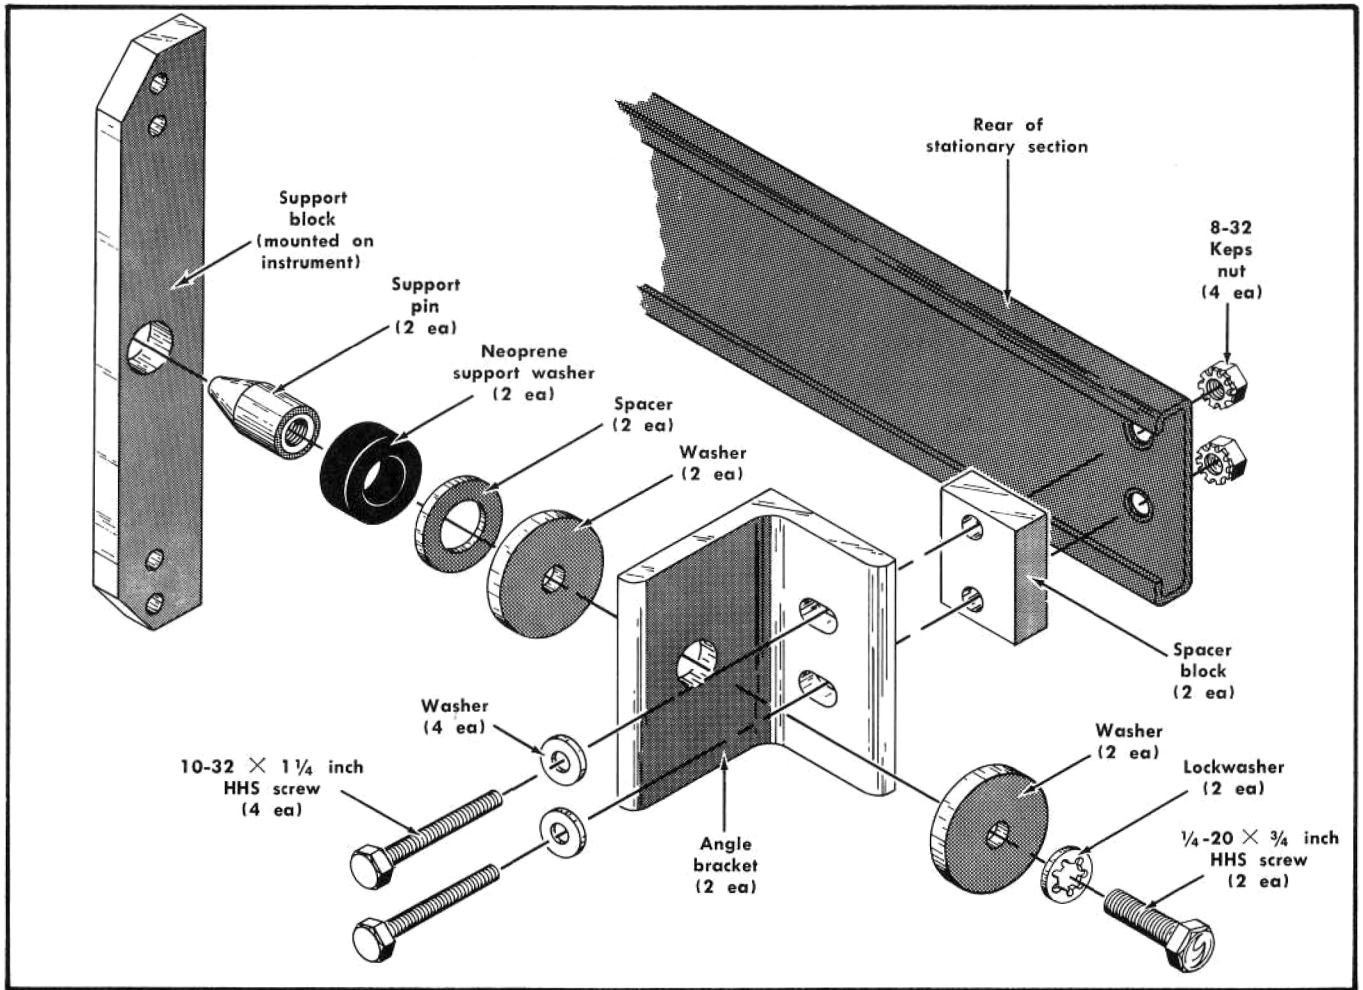

Fig. 6-6. Rear Support kit.
3. Attach an angle bracket to both rear rails of the rack through the spacer block, stationary section and into the rear rail of the rack. Note that the holes in the spacer block are not centered. Be sure to mount the block with the narrow edge toward the front of the rack; otherwise, the instrument may not slide all the way into the rack. Do not tighten the mounting screws. Fig. 6-6 shows the parts in the rear support kit and the order in which they are assembled.
4. Assemble the support pin to the angle bracket in the order shown in Fig. 6-6. Leave the spacer (washer) off, but install the neoprene washer.